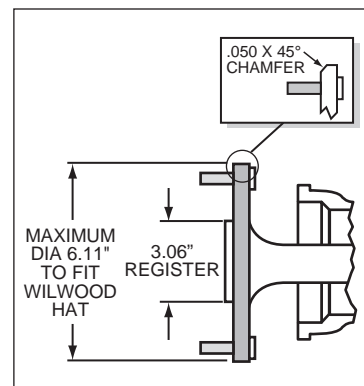

Figure 4. Axle Flange Maximum Dimension
- Maximum axle flange diameter must be no larger than 6.11" w/.050" x 45° chamfer, Figure 4.